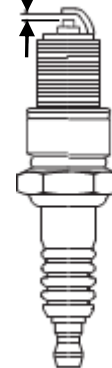

Figure 11
- 4) Visually check the Spark Plug (**Figure 11**). Clean with a steel brush. If the insulator is damaged, replace the Spark Plug.